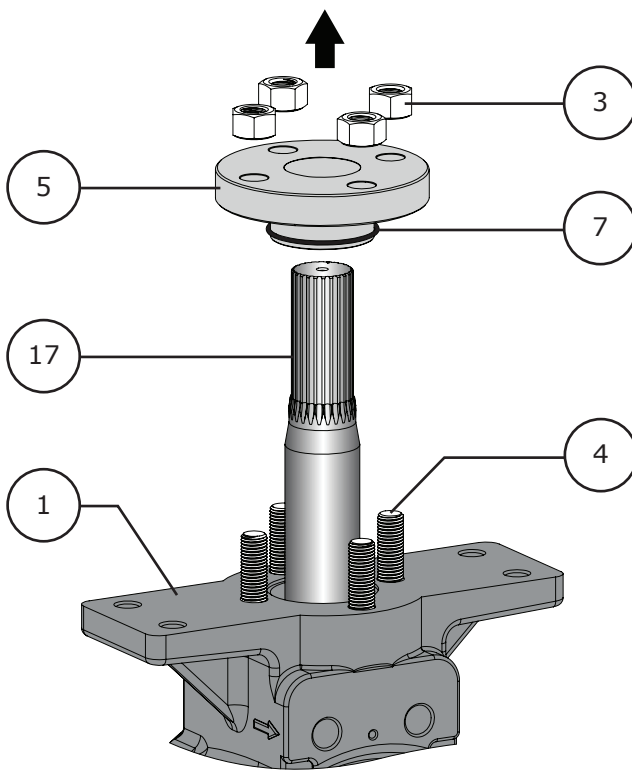

Figure 21 Inboard Shaft Seal Disassembly
- 1 With the ball (Key 2) supported, remove inboard seal carrier nuts (Key 3). Refer to Figure 21.